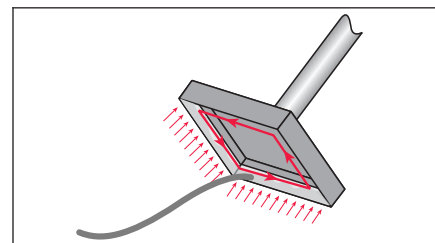

Figure 1
5. Tin the tip generously around the entire inside working surface. (See Figure 1.)